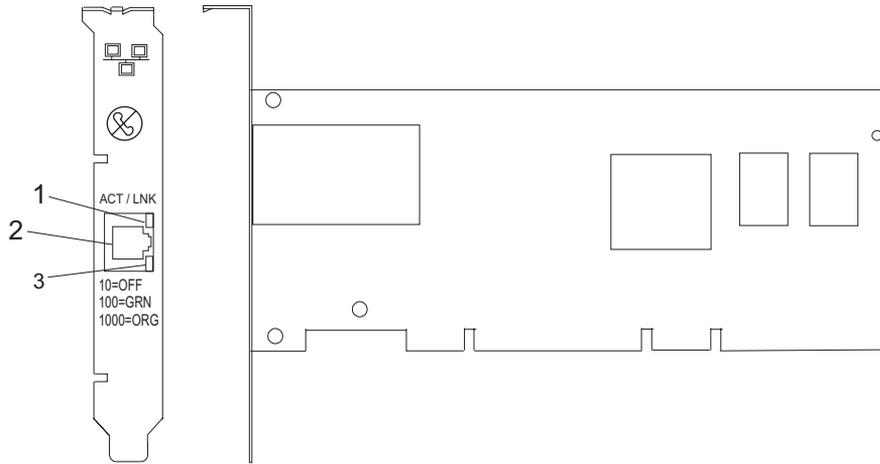

Figure 1. 10/100/1000 Base-TX Ethernet PCI-X Adapter
- Two bi-color LED adapter status indicators for link activity and baud rate, see Figure 1 on page 2.